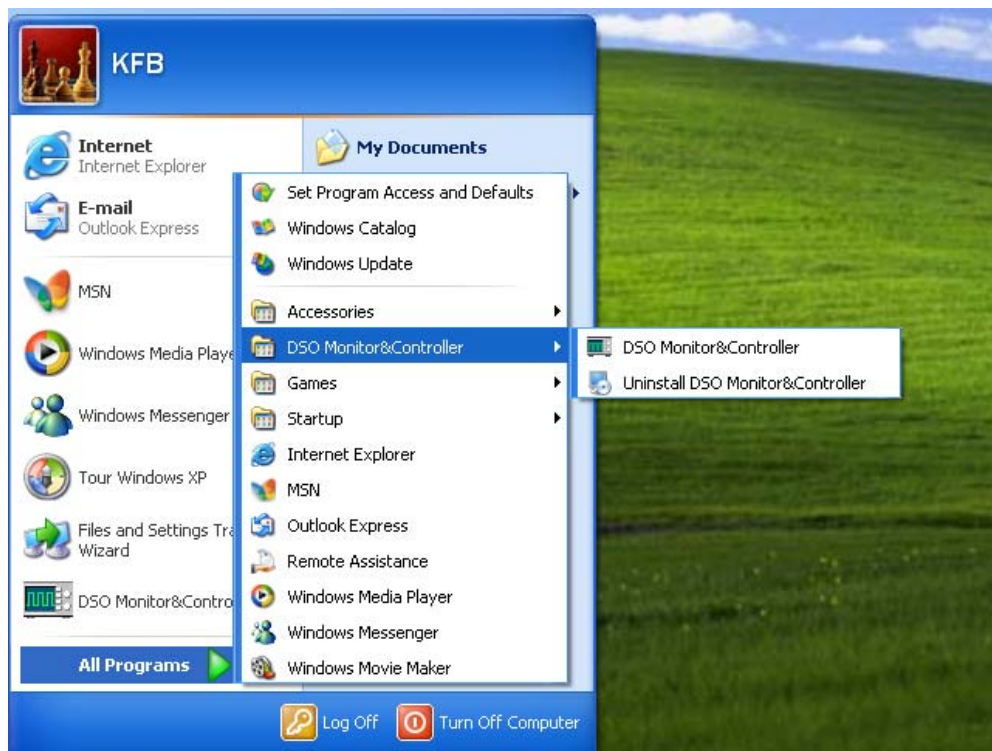

Figure 1-18
- (2) Alternatively, you can start the software as follows : START→Programmes→DSO real-time monitor→DSO real-time monitor, as shown in Figure 1-18.